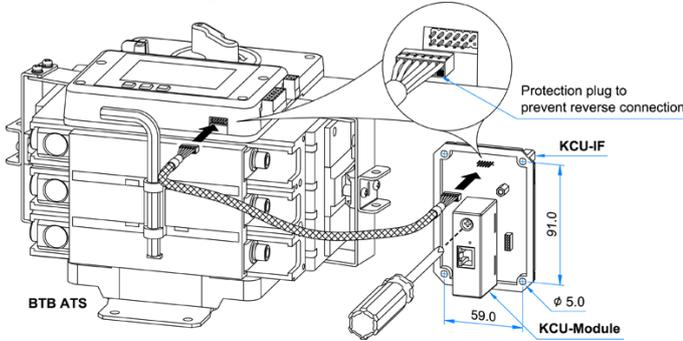

Figure 2 Installation for KCU-31
Step 1 : See Figure 2 for an example